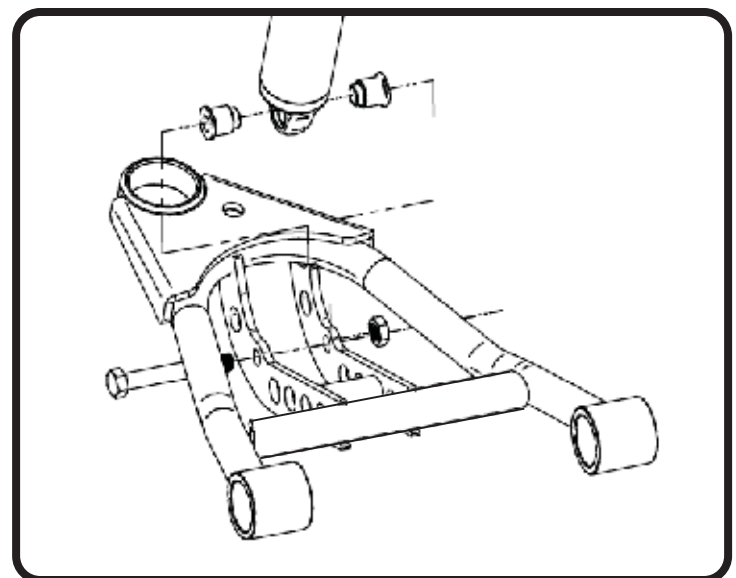

Figure 5
**6.** Insert an aluminum shock spacer into each side of the shock bearing, raise the lower arm up to the ShockWave and attach the shock to the arm using the  $\frac{1}{2}$ " x  $3\frac{1}{4}$ " bolt and Nylok nut supplied with the lower arms (Figure 5). Torque to **75 ftbs**.